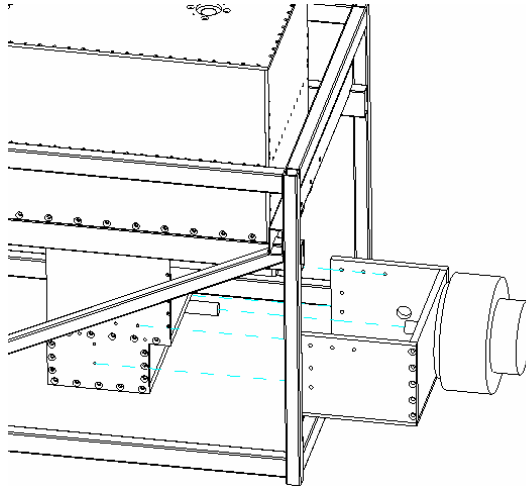

Figure 3
6. For the ETEK motor that is affixed to the mounting plate assembly as seen in figure 3 below, follow the same steps starting with the coupling set screwed onto the input shaft flat.